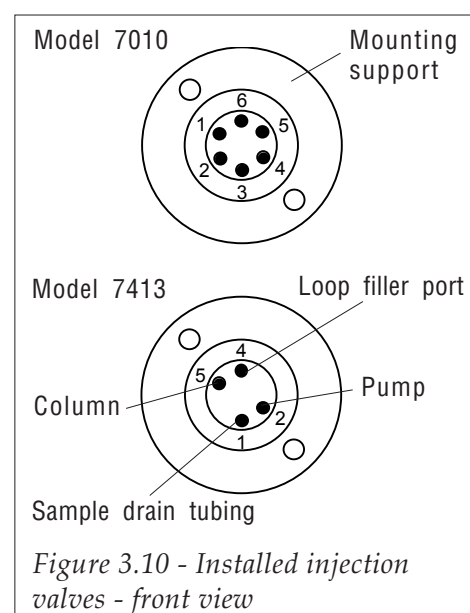

Figure 3.10 - Installed injection valves - front view
- Slide the valve through the mounting support. Then slide the pinion assembly onto the valve shaft (refer to Figure 3.10) such that the pinion assembly is against the mounting support. Then insert the fixing screws into their correct holes (1 for 7413 and 2 for 7010). Refer to Figure 3.10. Connect all the tubings as shown in Figure 3.5, Section 3.5.